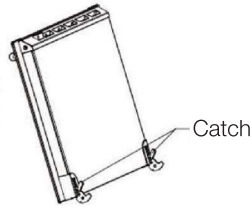

Figure 1
A. Removing the oven door: (See figure 1).